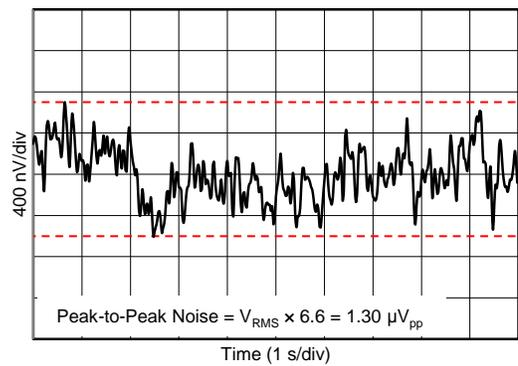

Figure 22. 0.1-Hz to 10-Hz Noise
0.1-Hz to 10-Hz Noise	<a href="#">Figure 22</a>